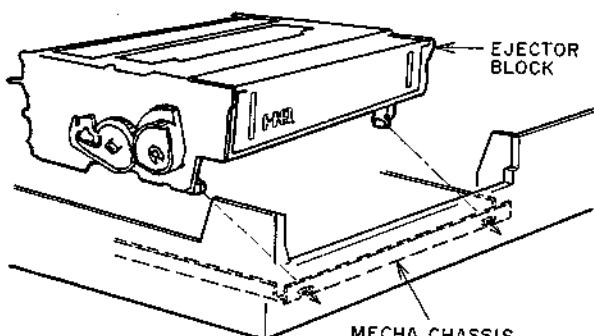

Fig. 4-2
- 1) Install the Ejector Block on the MECHA. chassis as shown in Fig. 4-2.